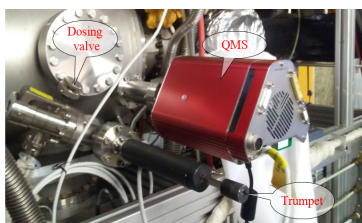

Figure 4.5: View of the trumpet, QMS and dosing valve.
3. Move the trumpet (Fig. 4.5) from the "OUT" to "IN" position. Pull it until the line marked "IN" and fasten the butterfly knot.
7. Open gently the dosing valve near the trumpet (counterclockwise, see Fig. 4.5) to allow gas flow from the gas pipes into the MC. Open the dosing *slowly* until the MC gauges reach $\sim 10^{-6}$ mbar.